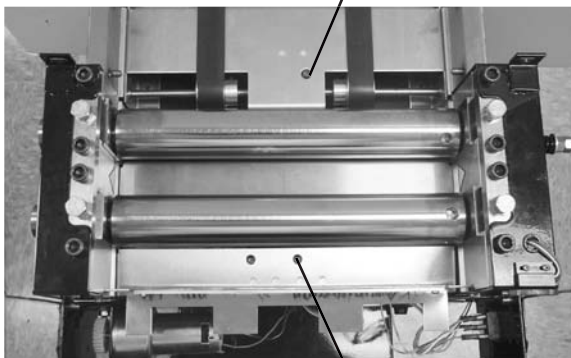

Fig. 28
**Sealer** - A photo-eye sensor is located on the eight ball transfer deck before entering the sealer unit. This device senses jams and immediately stops the sealer, burster (2084) and folder until the jam is removed and the machine is restarted (Fig. 28).